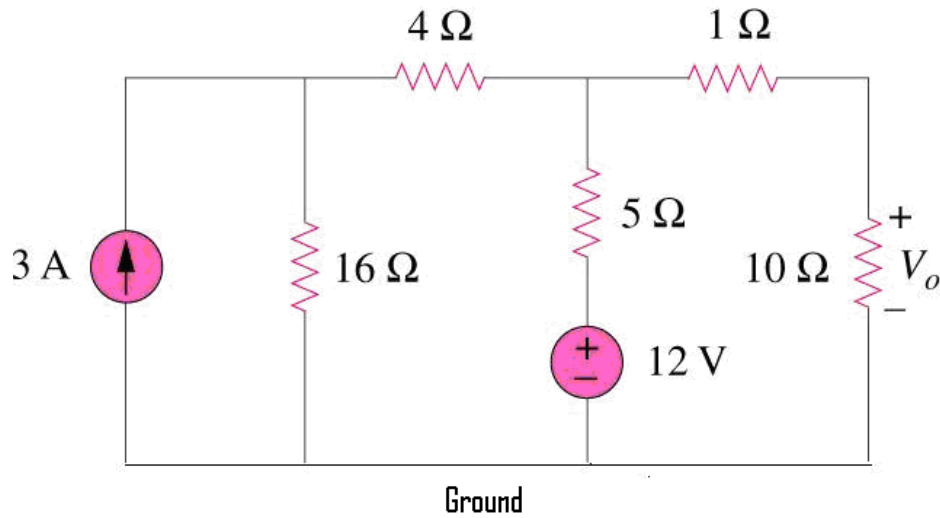

Figure 1
1. Solve the circuit of Figure 1 below using the **Mesh Current method**.